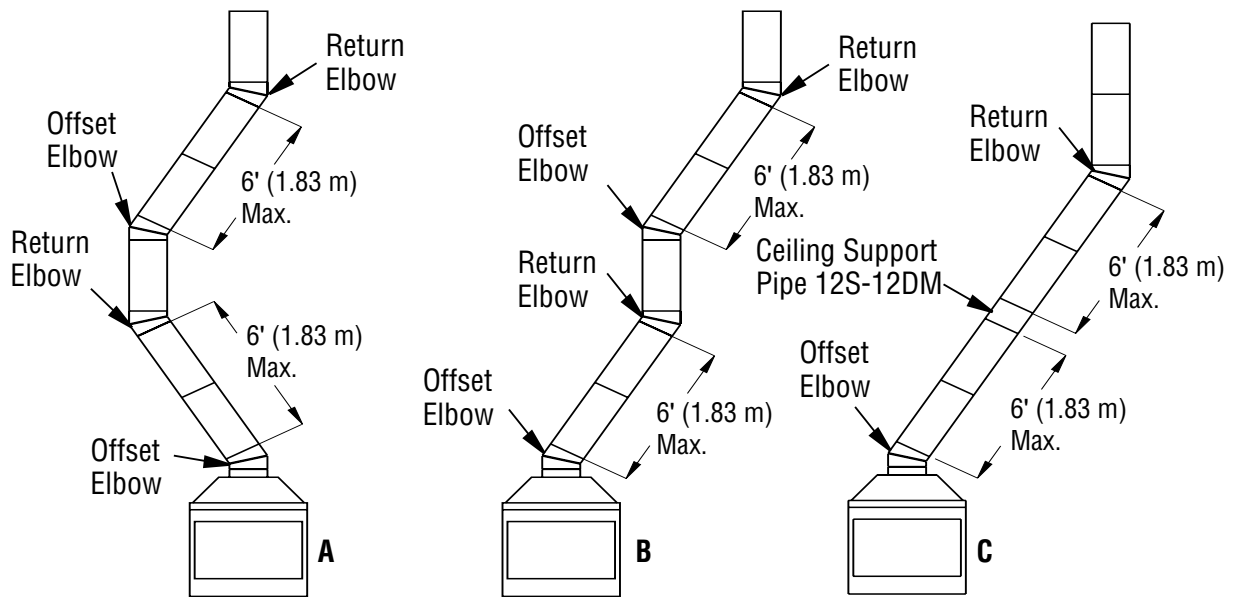

Figure 12 - Typical Offset Terminations
3. Maximum length of pipe between supports (return elbow or 12S-12DM) is 6' of angle run. Maximum of two 6' angle run sections per chimney system (see **Figure 12, Page 11**).